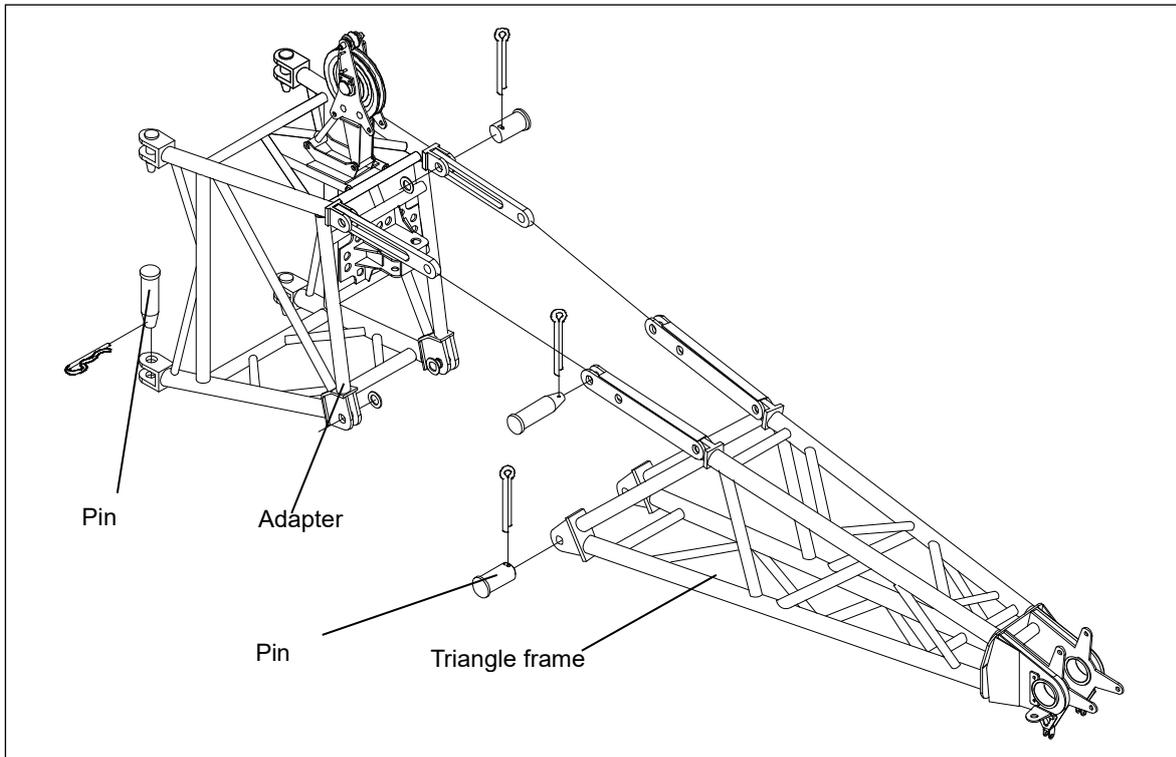

Figure 5-19 Assembly of tip boom
- e) Align the end of the adapter with the pin holes on the end of triangle frame. Install the pins and the retaining clips. Refer to Figure 5-19.